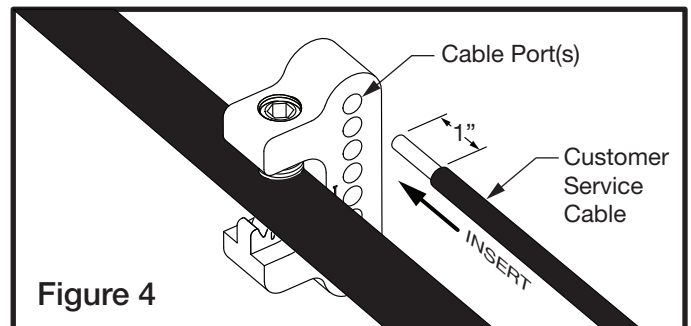

Figure 4
- 3) Prepare Customer Service Cable by stripping cable to 1 inch (see Figure 4).
- 4) Install stripped end into one of the cable ports (Figure 4).